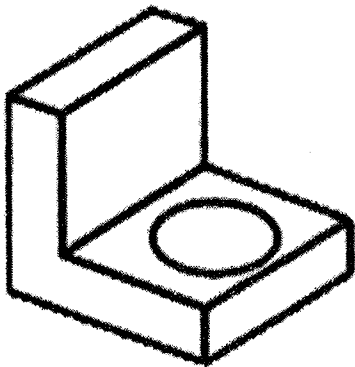

Figure 01
- b. Draw the CSG tree for the objects shown in Figure 01 and Figure 02. (18 mark)